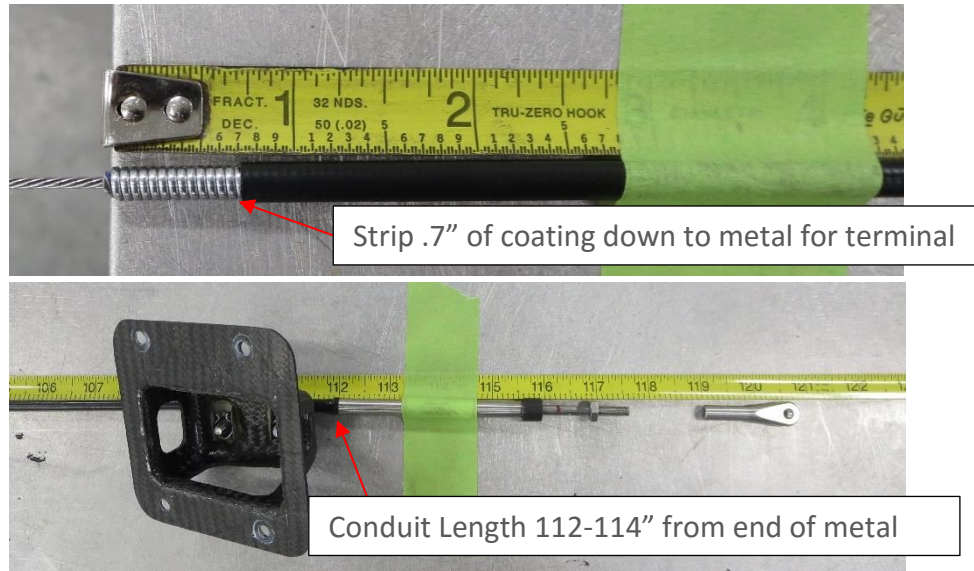

Figure 4: Cable Conduit measurements
2. Measure and cut the conduit to 112-114" measured from the end of cable where it enters the metal sheath as shown in Figure 4. Cut the conduit at 114" initially then cut it shorter if necessary.
3. Once conduit is cut to size, strip .7" of conduit plastic coating down to the metal on the opposite end of the conduit as shown in Figure 4 for the conduit terminal.